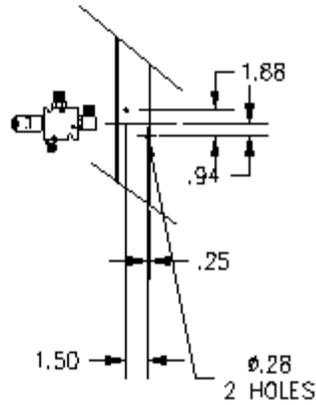

FIG.2
- * Drill (2) 1/4" holes in the rear of the engine mounting plate as shown on Fig.2. The holes are predrilled on later models. Mount supplied three-way solenoid valve using 1/4" bolts, nuts, and washers provided.